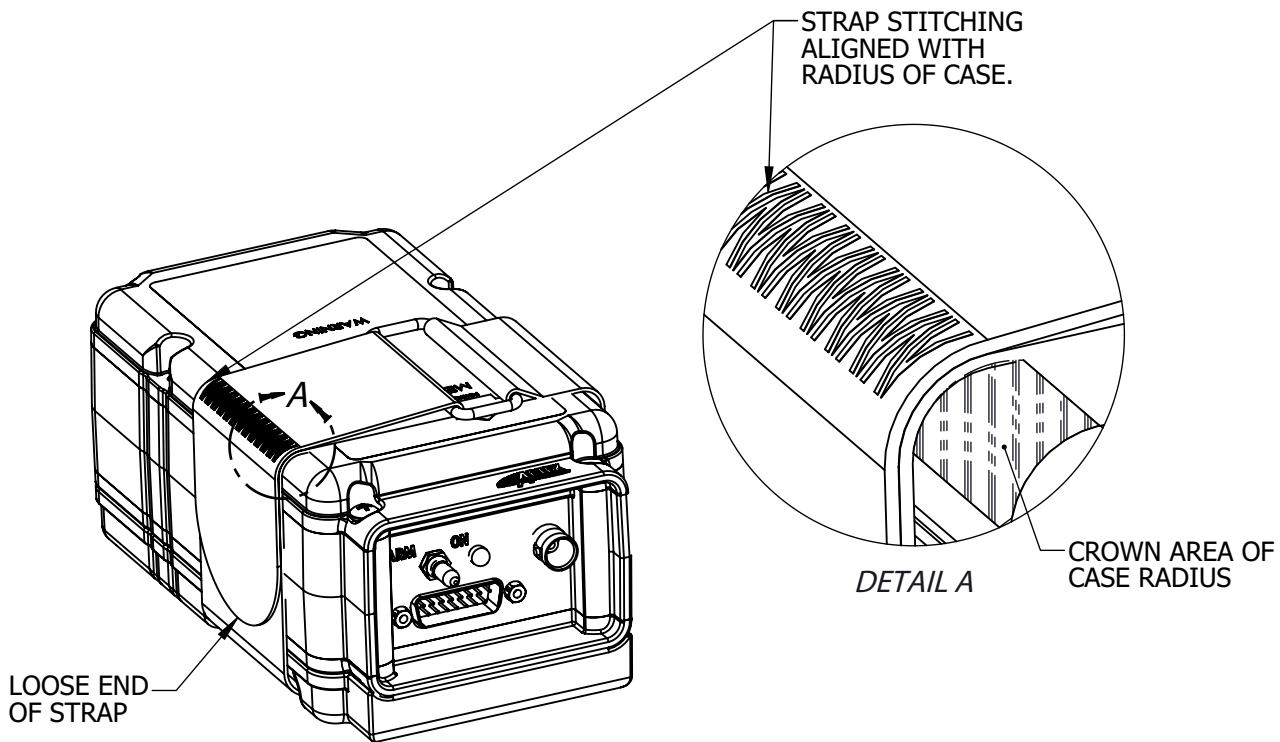

Figure 23 Velcro Strap Installation & Inspection
- (5) (Velcro Strap Installations Only) Tighten the Velcro strap around the ELT body (see Figure 23 Velcro Strap Installation & Inspection).
- (6) Connect the remote switch harness plug to the ELT, as follows: